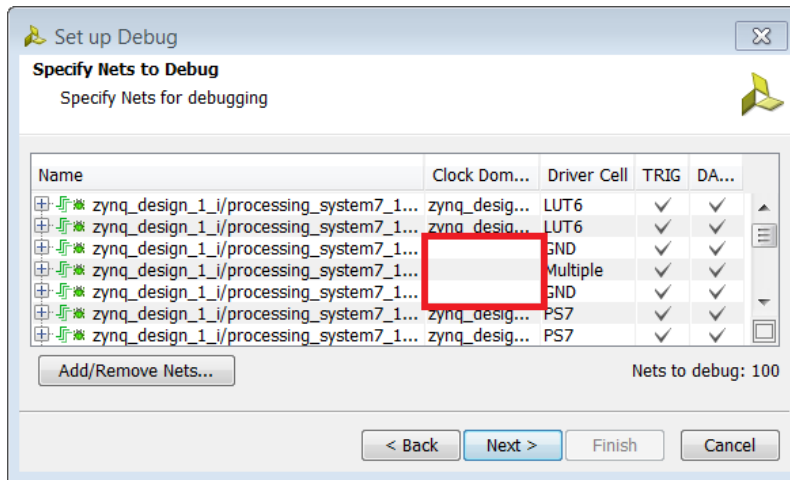

Figure 33: Setup Debug
- On the second panel of the wizard, notice that some of the nets in the table do not belong to a clock domain (Figure 33).